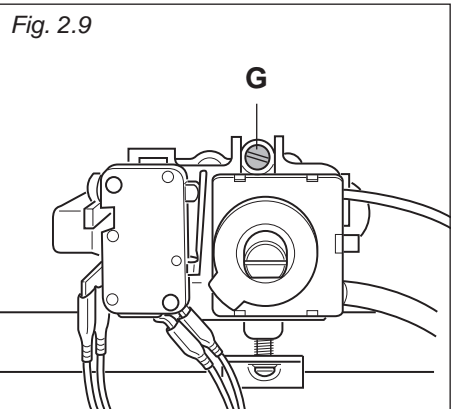

Fig. 2.9
- remove the knob and unscrew the by-pass screw "G" (fig. 2.9) about three times by passing a small flat screwdriver (Ø 3 mm blade, 100 mm length) through the panel opening;
- after having removed the knob again and being very careful not to turn the tap rod, slowly screw the by-pass screws "G" (fig. 2.9) until you obtain a flame of 3-4 mm in height.